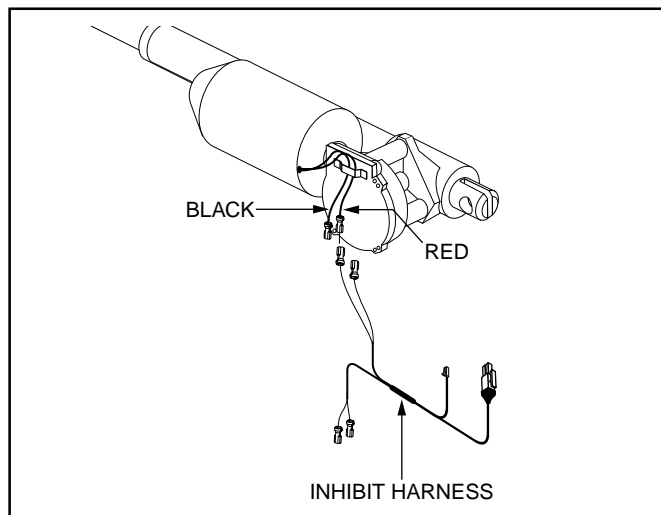

Figure 4.45. Dynamic Actuator with Harnesses
- If the actuator resistance is normal, set the meter to the DC voltage scale. Insert the leads into the versa tilt harness (these are the red and black pigtails which plug into the actuator motor pigtails) and operate the joystick to the tilt up position, the reading should be approximately 24 volts DC. Now operate the joystick to the down position and the reading should be approximately -24 volts DC. If the readings are reversed, make sure the leads are in the correct wires. See figure 4.45.